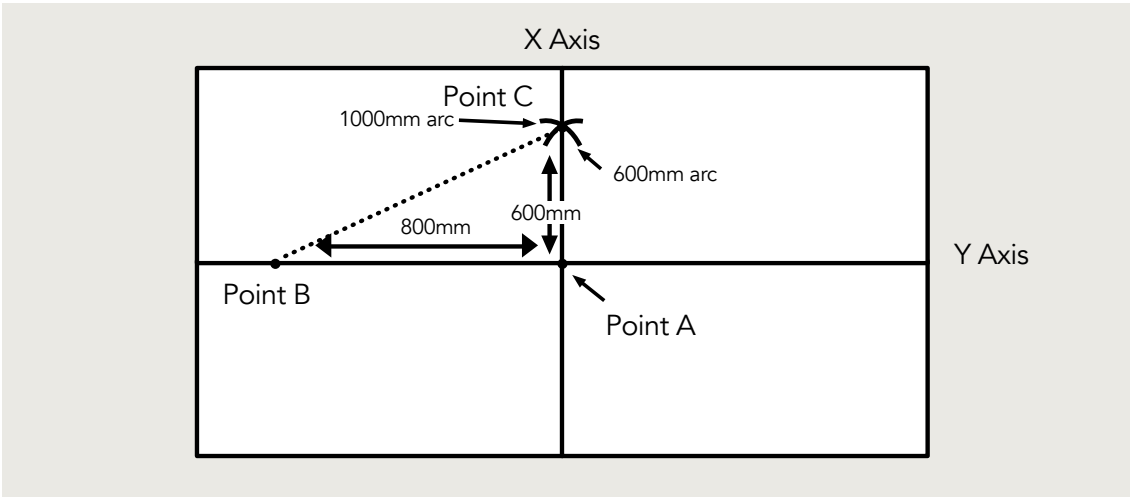

Figure 3: How to achieve a square layout from the Centre of the Room
The next line (X) must be exactly 90 degrees to line Y to form a perfect square corner. See figure 3 below.